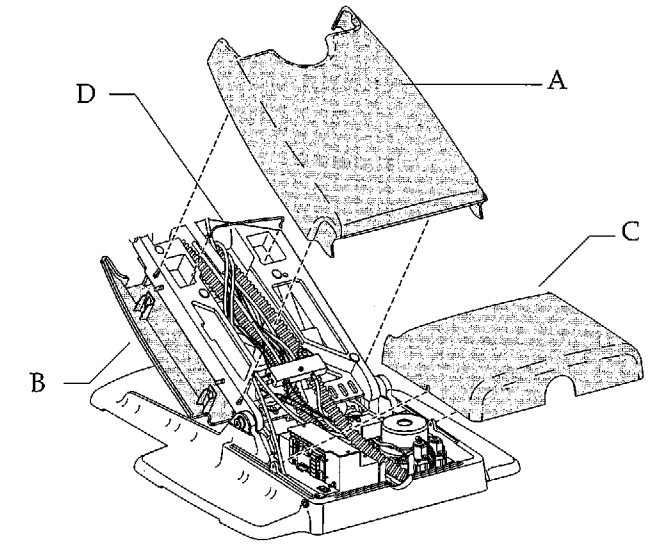

Figure 72. Attaching the chair covers. (A) lift arm cover; (B) stop plate cover; (C) motor pump cover; (D) metal spring clip
2. Attach the stop plate cover to the lift arm casting pins, see Figure 72.